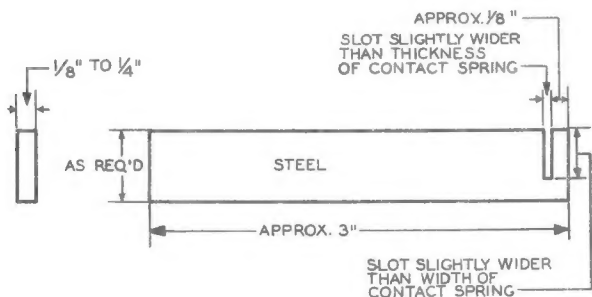
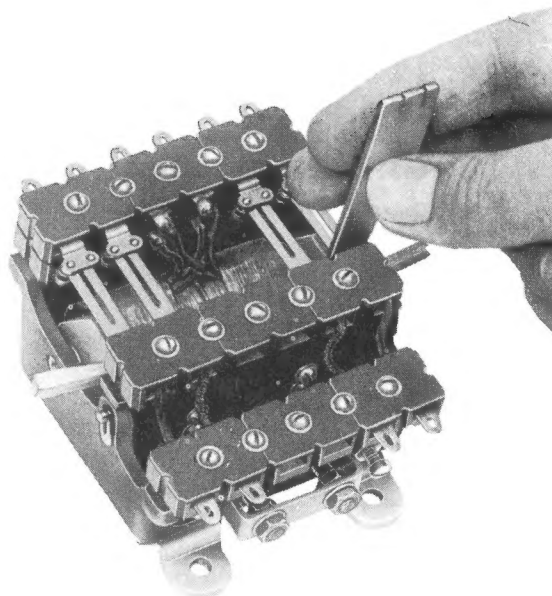
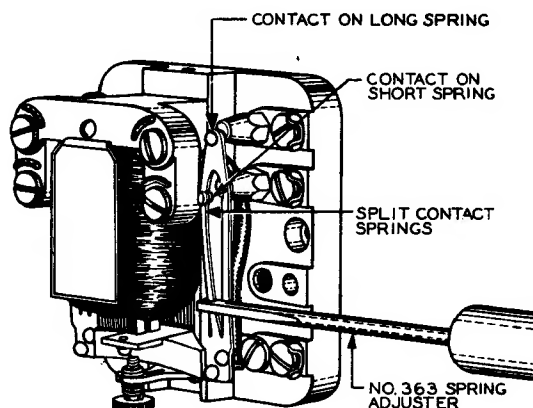

Fig. 6 - Method of Making Adjusting Tool
Fig. 7 - Method of Adjusting Contact Springs Using T-40010 or Fig. 6 Tool and Method of Blocking KS-5635 Relay Operated
**Fig. 8 - Method of Adjusting for Contact Pressure and Contact Sequence**
(The Signal Engineering and Manufacturing Company's T-40010 tool is suggested where a large number of split springs, other than those on KS-5635 relay, are to be adjusted or where access to springs from the side is impossible. A similar tool can be made as shown in Fig. 6 for use on KS-5635 relays and on relays not having split springs.)
(b) For this work duck-bill pliers, No. 363 tool having 0.018-inch straight slot, No. 356 tool having 1/16-inch and 0.025-inch, 90-degree slots, T-40010 tool shown in Fig. 7, or a tool made locally per Fig. 6 should be selected, depending on number, size, and location of springs to be adjusted, location of relay, and adjacent apparatus, etc. With heavy springs such as found on E-type relays, pliers must be used even if this makes removal of the relay from the panel necessary. For the
inside springs of KS-5635 relays, No. 356 tool, T-40010 tool, or a tool per Fig. 6 is preferred. For the inside spring of A-type relays, the T-40010 tool is most convenient. The use of T-40010 tool and tool per Fig. 6 is illustrated in Fig. 7.
(1) On relays not having split springs, adjust for contact sequence as required with the duck-bill pliers. To do this, place the pliers at a point about 1/4 inch from the point where the spring is riveted to the armature as shown in Fig. 8 and adjust the spring at this point, as required. When access to the springs from the side is impossible and for KS-5635 relays, follow 3.03(1)(b). When a satisfactory adjustment cannot be obtained in this manner, distribute the tension as outlined in 3.03(1). It is expected that no further adjustments will be necessary. However, on C-, D-, S-, SC-, SS-type, KS-5635, and KS-15601 relays, further adjustment can be made by changing the position of the stationary contacts as outlined in 3.03(2). If any adjustments are made, recheck alignment (2.03).
(2) **Normally Open Contacts:** While checking pressure on NO contacts the relay must be held or blocked operated. The KS-5635 relay can be blocked operated with a small wedge on each side of the armature, as shown in Fig. 7. If the pressure between contacts is not satisfactory, hold the armature against the backstop and increase the tension of the spring, adjusting it towards the contact by applying the KS-6015 duck-bill pliers close to the riveted base of the spring, as shown in Fig. 8. In adjusting the springs, exercise care not to twist them, since this will prevent the contacts from resting flat against each other. When access to the springs from the side is impossible, follow 3.03(1)(b). If the spring is bowed or bent, follow 3.03(1). If a satisfactory adjustment of split contacts cannot be obtained as outlined above, make further adjustments in accordance with 3.04(2). On KS-5635 and KS-15601 relays a further adjustment can be made as outlined in 3.06(5). If any adjustments are made, recheck alignment (2.03) and sequence (2.04).